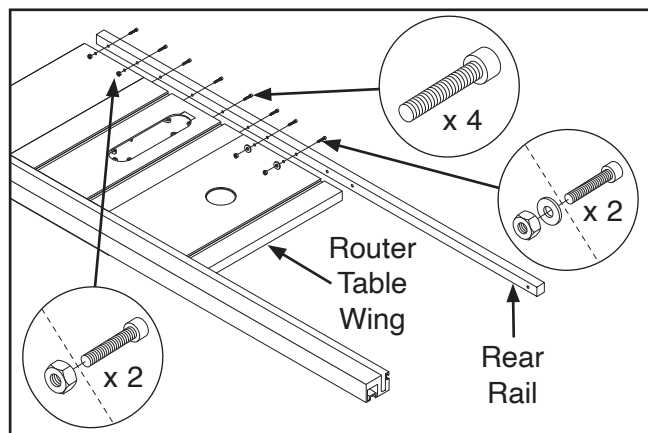

Figure 18. Attaching rear rail to extension table, main table, and router wing table.
14. Attach rear rail to router table wing with (2) M8-1.25 x 16 cap screws, 8mm flat washers, and M8-1.25 hex nuts (see **Figure 18**).